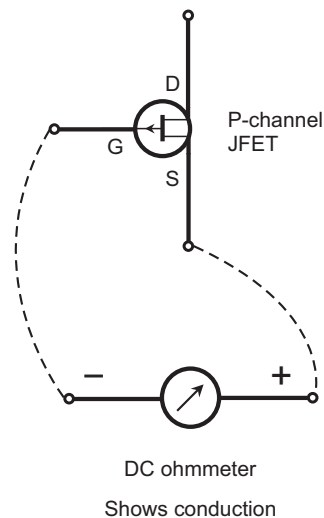

FIGURE 7-24 Electrons should flow from the gate to the source.
As you did with the bipolar transistor, hold the meter probe tips up against the JFET leads in all six combinations. Figures 7-24 through 7-29 show the connections and indicate the results you should see with a good P-channel JFET. Moderate resistance indicates conduction, just as with any other P-N junction. Don't worry about the exact ohmic value; your meter generates current that creates an "apparent resistance" in the junction. "Infinite" resistance, in which the meter needle does not budge (if you use an analog meter, as I did), however, definitely indicates non-conduction.
1. Electrons should flow from the gate to the source (Fig. 7-24).